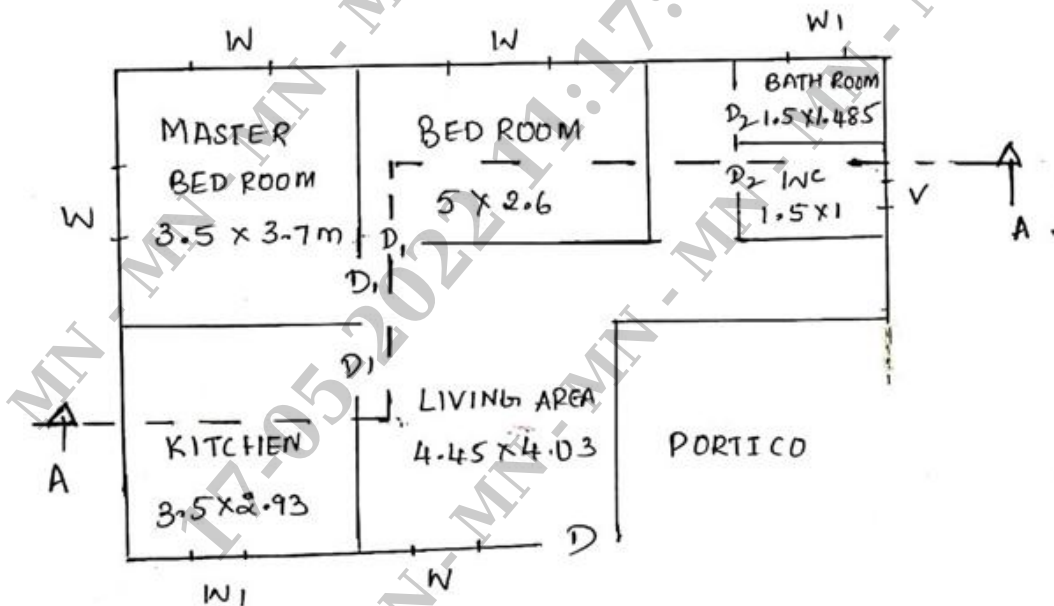

Figure Q6
- Q6 Line diagram of Single Storey residential building is given in Figure Q6. Draw to scale the following: